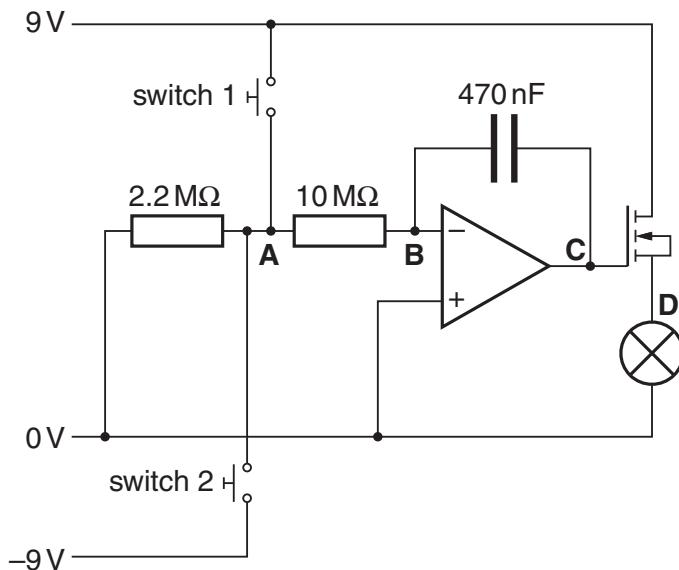

Fig. 2.1
- 2 Fig. 2.1 shows an op-amp circuit to control the brightness of a bulb.
- (a) Put a ring around the type of op-amp circuit in Fig. 2.1.